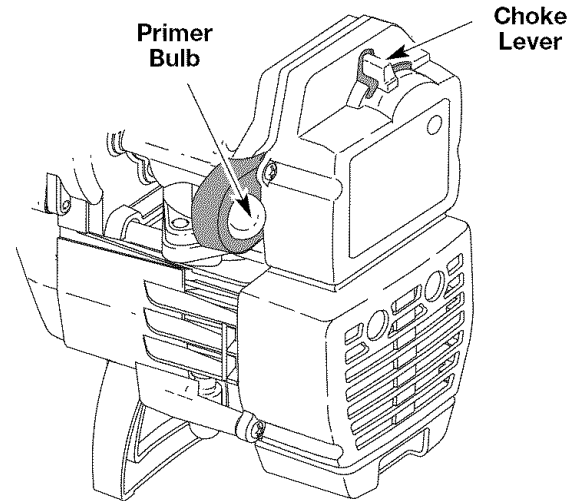

Fig. 8
- Fully press and release primer bulb slowly 10 times. Fuel should be felt and visible in the bulb (Fig. 8). If fuel hasn't entered the bulb, press three more times, or until it does.
- Place the choke lever in **Position 1** (Fig. 8).
- Place the choke lever in **Position 2** (Fig. 8).